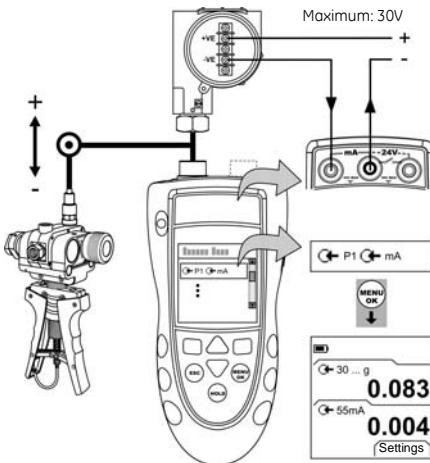
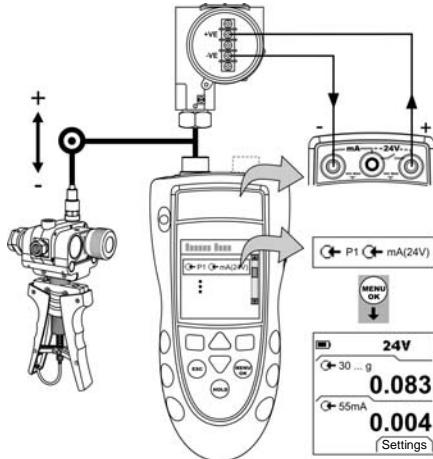

Figure 5: Example configuration - Transmitter calibration with external loop power
Figure 6: Example configuration - Transmitter calibration with internal loop power
1. Connect the instrument (Figure 5 or Figure 6) and, if necessary, adjust the Set Up (Table 1).